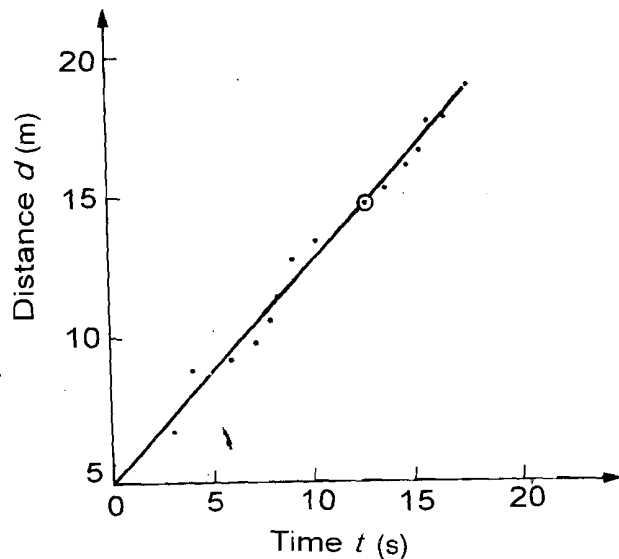

Fig.1.5: A mean fit curve
- vii) The curve drawn should be the simplest mean curve that fits the data. In the graph shown below (Fig.1.5), it is easy to see this would be a straight line. Note that the line may not necessarily pass through each observed point. However, it should pass through the region of uncertainty for each point.